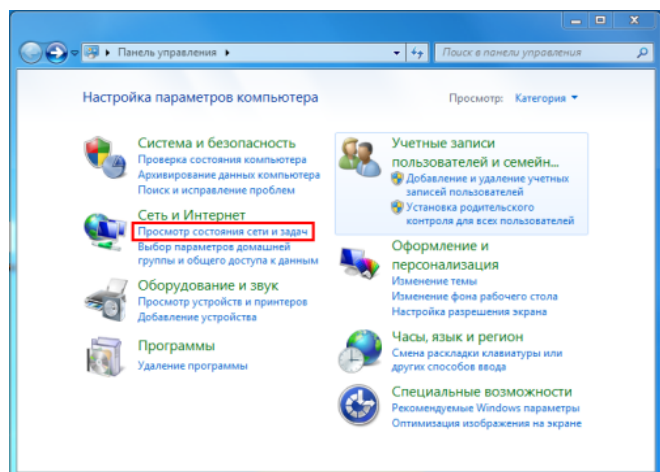

Figure 3.1 – PC parameters settings window
- 1) Push **Start** in the left lower corner in Windows and choose **Control panel**. There will be a menu, shown in figure 3.1. In section **Network and Internet** choose **Tasks and networks status scan**.